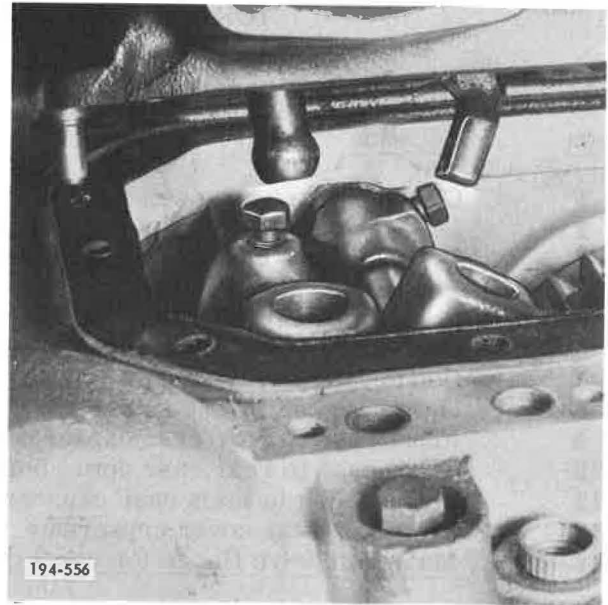

Figure 5-562. Installing Cover
2. Install air shift cover, being careful to be sure shift levers engage shift forks. See Figure 5-562.